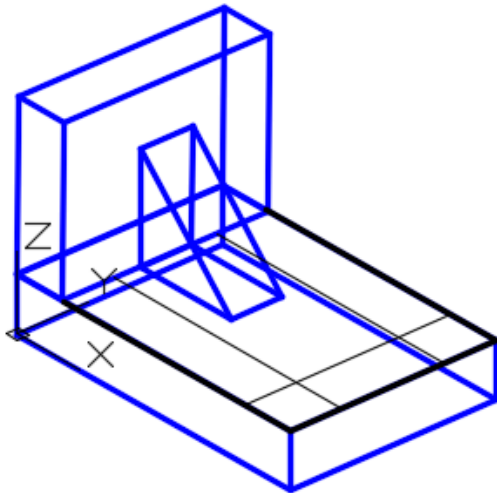

Figure Step 9
Step 9 Offset the construction lines to locate the center of the holes. (Figure Step 9)